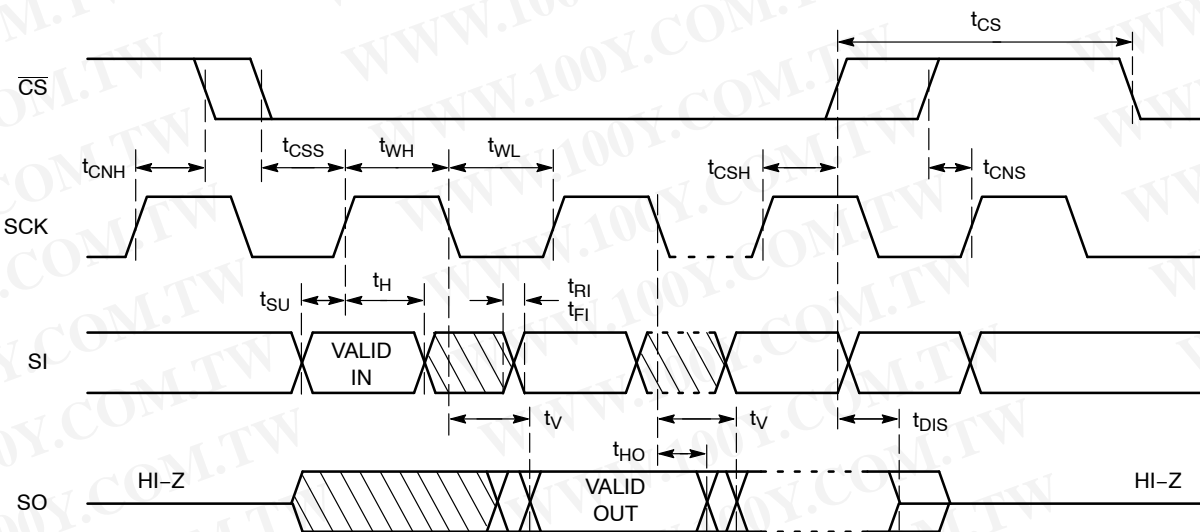

Figure 2. Synchronous Data Timing
7. **All Chip Select (CS) timing parameters are defined relative to the positive clock edge (Figure 2). t_{CSH} timing specification is valid for die revision D and higher. The die revision D is identified by letter "D" or a dedicated marking code on top of the package. For previous product revision (Rev.C) the t_{CSH} is defined relative to the negative clock edge.**
After a high to low transition on the \overline{CS} input pin, the CAT25128 will accept any one of the six instruction op-codes listed in Table 7 and will ignore all other possible 8-bit combinations. The communication protocol follows the timing from Figure 2.